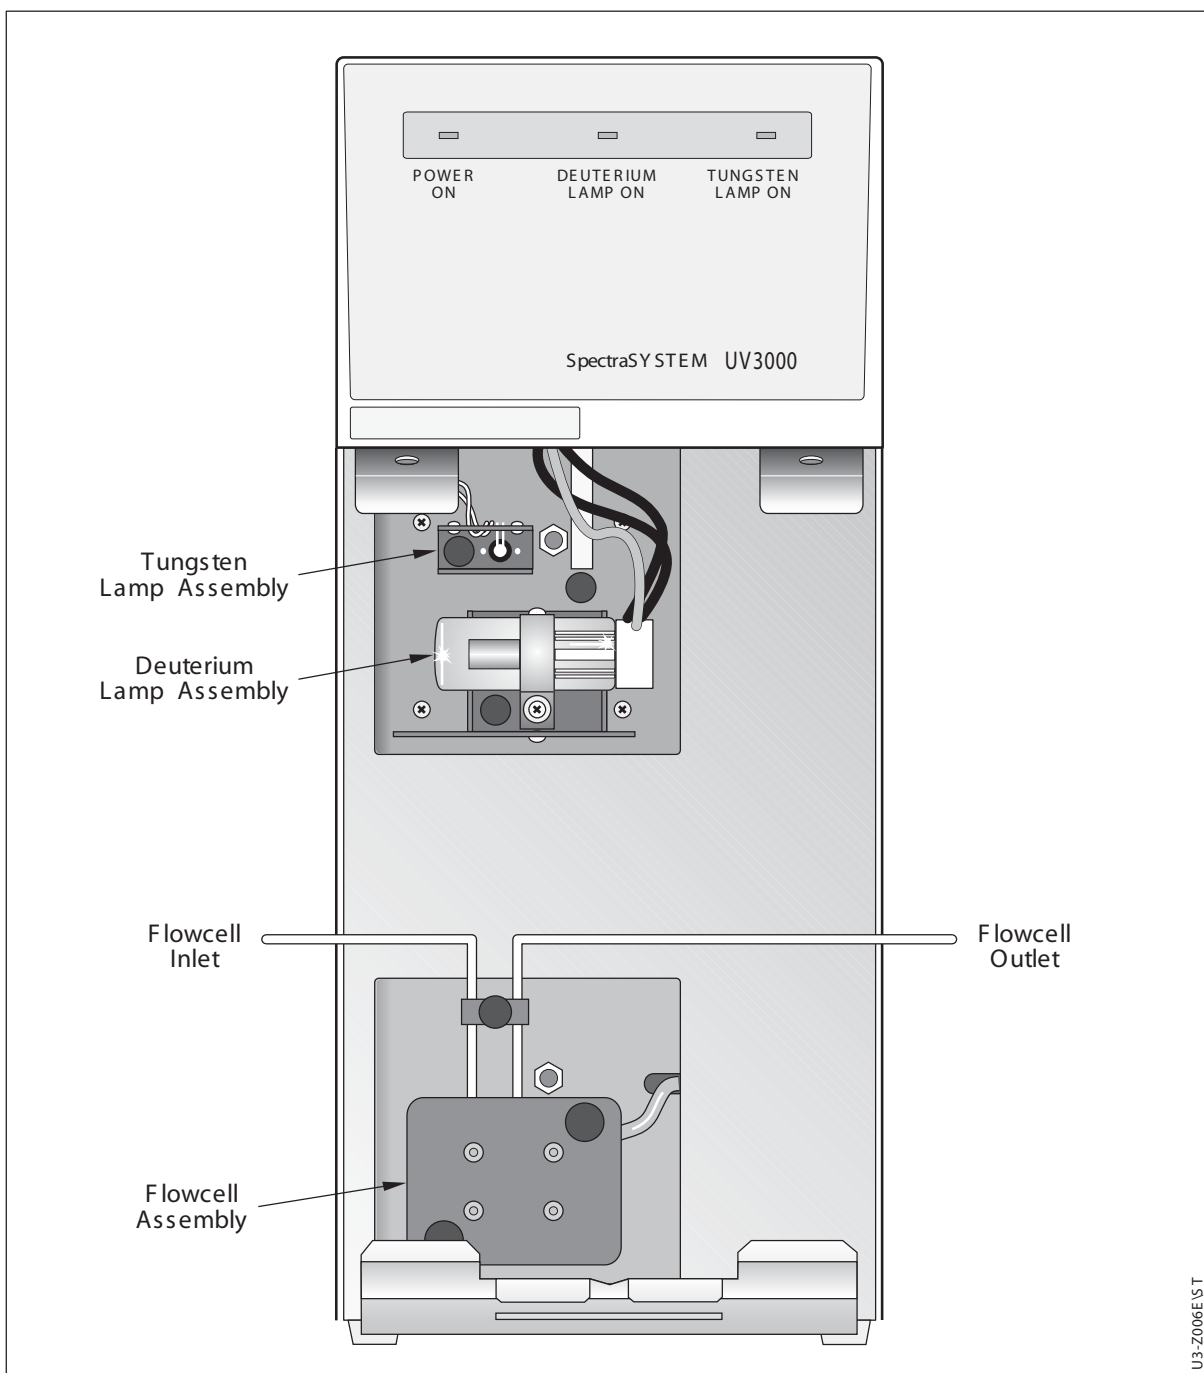

Figure 3.6 Deuterium and tungsten lamp assemblies
3. Remove the lamp housing by loosening the thumbscrew and pulling the cover straight back to expose the lamp assemblies (Figure 3.6).